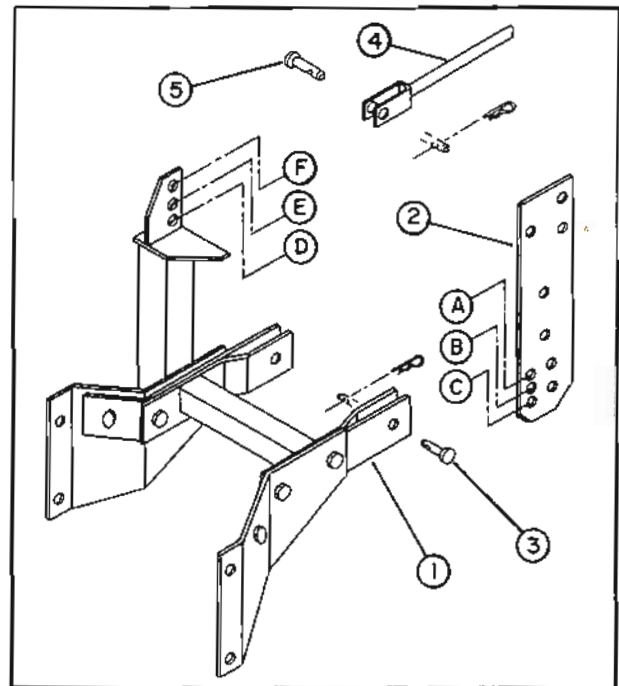

FIGURE 14
- a) Attach pushframe (fig. 14, item 1) to front support brackets (fig. 14, item 2) selecting hole position for types of tires used (see note below) and lock in place with two $17/32" \times 1 3/4"$ pins (fig. 14, item 3) and 3mm x 65mm hair pins .
NOTE: Normally if equipped with AG type tires use hole position (fig.14, item C) or for turf type tires use hole position (fig.14, item A); Depending on tire wear etc., use whichever of the 3 holes is appropriate to level the snowblower front to rear.
If using hole (A), use hole (D) to install the lift rod (fig.14, item 4) to the left hand attaching plate. If using hole (B) use hole (E) and if using hole (C) use hole (F). Attach in place with a $5/8" \times 1 5/8"$ pin (fig.14, item 5) and a 3mm x 65mm hair pin.
Scraping action is adjusted by switching pushframe position on front support brackets and lift rod position on front lift bracket (see figure 14).